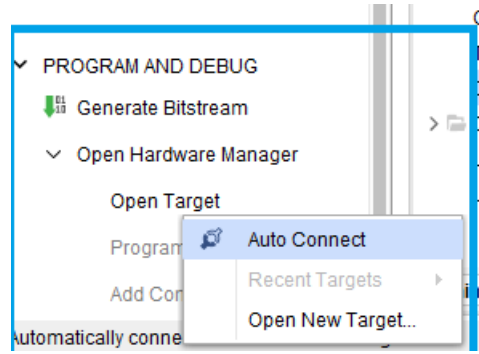

Fig. 2.9: Connecting FPGA to the computer.
1. Connect the micro-USB of the FPGA to your computer with the cable. And under the *Open Hardware Manager* right click on *Open Target* and the click on *Auto Connect* (Fig. 2.9).